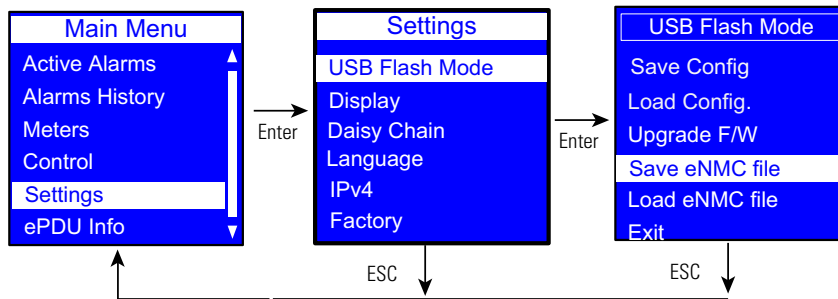
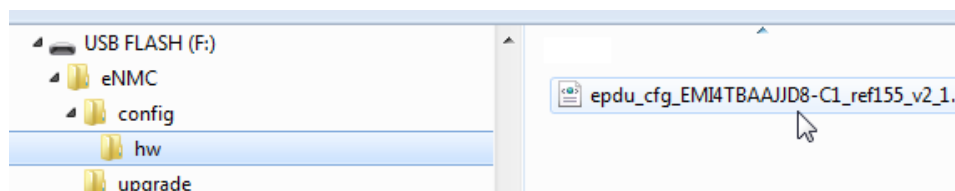

Figure 68. Example Save eNMC File Display
Figure 69. Verify HW File at USB Root
4. Select Save eNMC file to save the ePDU hardware configuration file to the USB drive (see Figure 68). The file will save to the eNMC/config/hw path at the USB drive root directory (see Figure 69).).